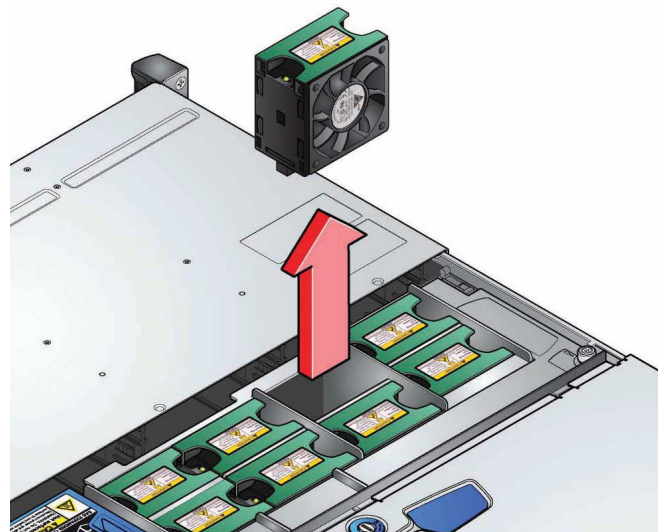

Figure 4: Removing a Fan
2. Grip the faulty Fan module with finger and thumb and pull it upwards in order to unplug it, and remove it from the enclosure (see Figure 4).